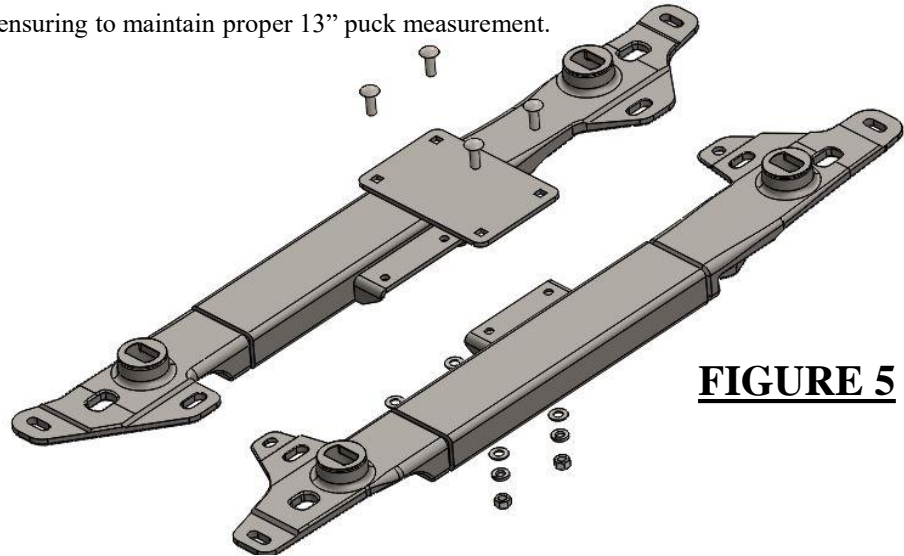

FIGURE 5
Rail Kit Assembly-Figure 5
1. Obtain items number 1,2,5,6,7, 8 and 9 and assemble as shown below in figure 5.